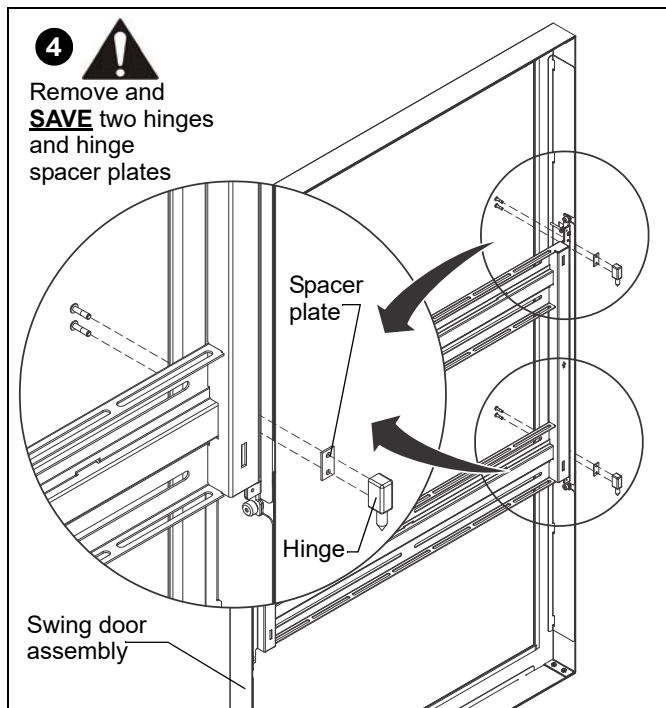

Figure 15
4. Remove and **SAVE** lift-off hinge and hinge spacer plate from two locations on swing door. (See Figure 15)